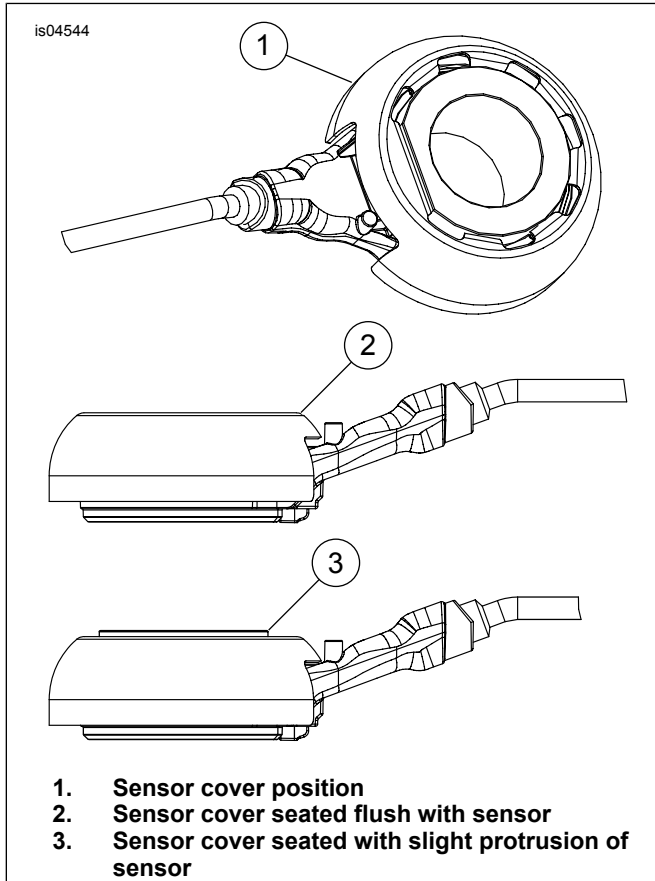

Figure 2. ABS Sensor Cover
1. See Figure 2. Position ABS sensor cover (1) on sensor with slot lined up to wire connection. Place a block of wood on cover and with a soft mallet, tap cover onto sensor until sensor cover is flush (2) with sensor or seated with slight protrusion (3) of sensor.
3. Apply a light coat of Permatex® Anti-seize Lubricant to axle (I).
4. Supporting wheel, insert threaded end of axle through right fork leg. Push axle through fork, new mushroom external spacer (2) and wheel hub until it begins to emerge from left side.